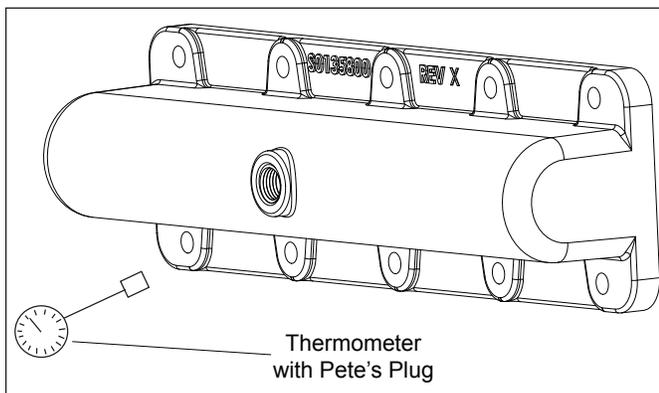

Figure 6. Check Temperature Rise
3. Remove the drain plug located on the return header of the heater and replace it with a Pete's Plug[®]. See Figure 6.
4. Insert a pocket thermometer through the Pete's Plug into the header. See Figure 6.
6. After three (3) minutes, note and record the thermometer reading. This is the pool water temperature.
- b. Allow the heater to operate for five (5) minutes or more.